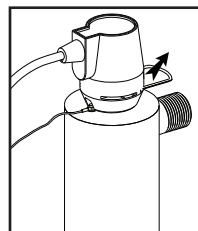
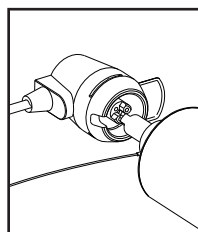

FIGURE 2A
FIGURE 2B
-    2. Disconnect main power source and allow the unit to power down for 30 sec. Remove the lamp connector by sliding the metal retaining ring (Figure 2A) away from the body of the connector. Remove connector and lamp from the reactor chamber. Separate the lamp from the connector (Figure 2B). Do not twist the lamp from the connector, simply slide the two apart. Avoid touching the lamp on the glass portion. Handling the lamp at the ceramic ends is acceptable, however if you must touch the lamp glass, please use gloves or a soft cloth. Fully remove the lamp from the reactor chamber being careful not to angle the lamp as it is removed from the chamber. If the lamp is removed on an angle, pressure will be applied on the inside of the quartz sleeve, causing the sleeve to fracture.
-    3. To install a new lamp, first remove the lamp from its protective packaging, again being careful not to touch the lamp glass itself. Carefully insert the lamp into the reactor vessel (actually inside the quartz sleeve) (Figure 2C). Insert the lamp fully into the chamber leaving about two inches of the lamp protruding from the chamber. Next, attach the connector to the UV lamp (Figure 2B). The connector is “keyed” and will only allow correct installation in one position. Ensure the connector is fully seated onto the UV lamp (Figure 2D).